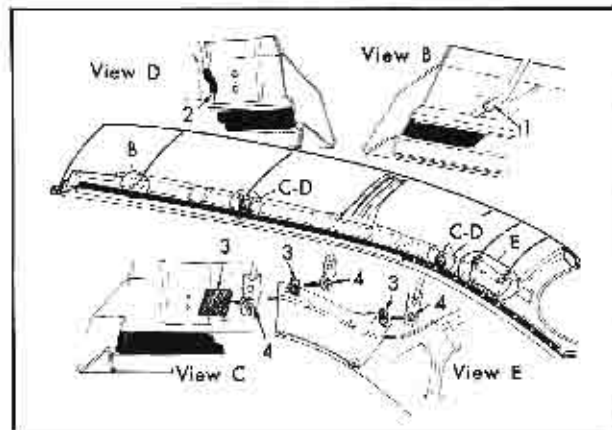

Fig. 3-74 Removal of Headlining Support Wires - (6237)
4. Detach the headlining front support wire by pulling the wire out of the metal thimbles which are inserted in the holes of the right and left side roof rails. View "B", Fig. 3-74.
5. Loosen the headlining listing wire attaching clips along the right side of the body. View "C" 4, Fig. 3-74.
NOTE: The left end of each support wire is formed with an offset, over which a rubber is placed prior to inserting into a slot in the left side roof rail. View "D" 2, Fig. 3-74.
3. Working from the center roof bow toward the front of the body, install the ends of the remaining support wires to the right and left side roof rails. View "C" and "E" at 3 and 4, Fig. 3-74.